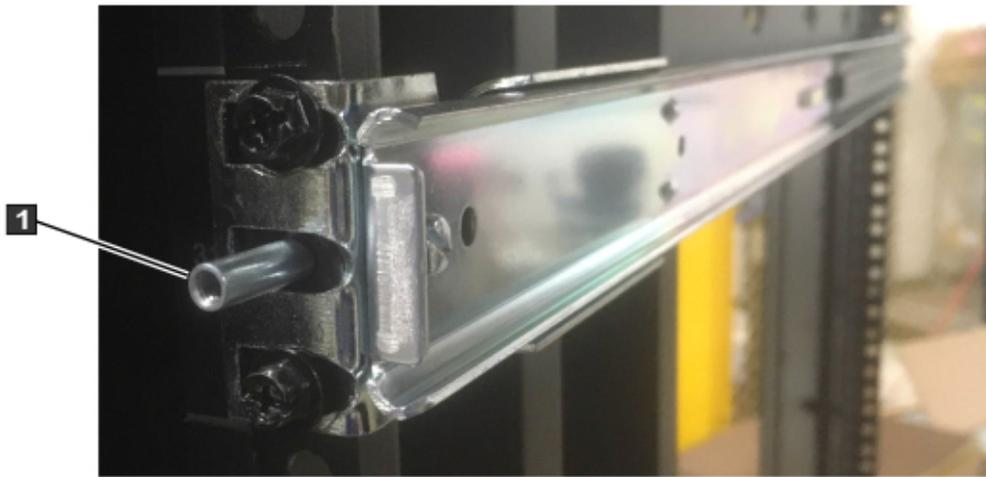

Figure 251. Rack front detail
- a) Attach a mounting bracket to each end of the outer rail members by using two of the supplied bolts, nuts, split washers, and washer sets per bracket, as shown in Figure 251 on page 335. Leave the nuts slightly loose to assist installing to the correct length.
- c) Attach the rail outer members into the front of the rack by inserting the nut plate (P/N 00E6806) behind the front rack upright and securing it with two screws (P/N 46C6380) per side, as shown in Figure 251 on page 335.